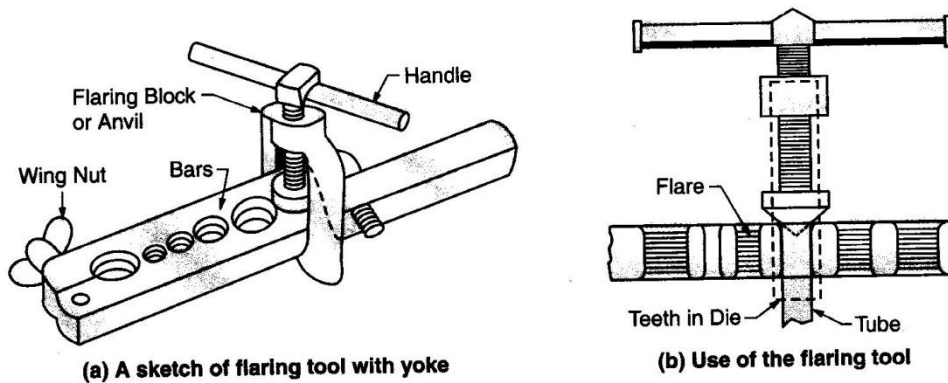

Fig. P-1.4.
4. Flaring Tool : A flaring tool consists of two bars held together by a fly nut and bolt. The bars are provided with holes for the various size of tubing ranging from $\frac{3''}{16}$ (38 mm) to $\frac{5''}{8}$ (125 mm) as shown in Fig. P-1.4 (a). A yoke containing the flare forming die is slipped on the bars and the handle is rotated to produce a flare as shown in Fig. P-1.4 (b). This tool is widely used because of its simplicity and ease of performing the flaring operation. The flares produced by the flaring tool by correct operation forms a gas tight semipermanent joint.